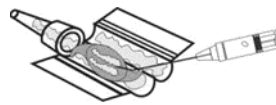

Fig.04
4. Applying a few drops of BS solution on the surface of the lens, as in Fig.04, will help to keep the lens in hydrated condition. Especially for the Hydrophilic, this is helpful.